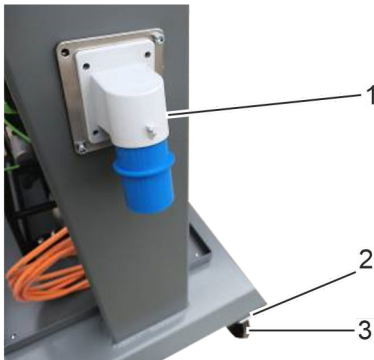

Fig. 17: Mains socket
6. ➤ Plug the connecting cable's plug into the power socket and connect the connecting cable to the mains socket (Fig. 17/1) of the Torque Control Tower.